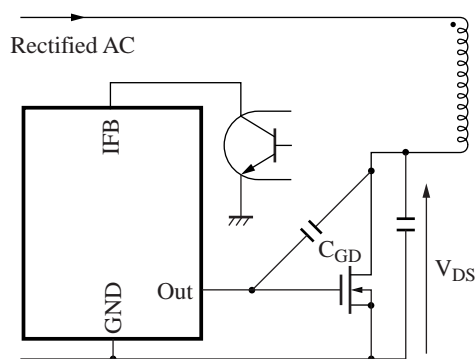

Figure 15
However, the amplitude of the chattering is larger for higher input voltages and for larger leakage inductance in the transformer used. Also, the influence of this phenomenon becomes more noticeable for the larger  $C_{GD}$  of the power MOSFET used, and the  $V_{EX}$  peak value also increases. If the parasitic device conduction voltage is exceeded, then, in this IC, the parts of the circuit around the feedback circuit (FB) (in particular, the FB discharge circuit) are influenced. This can cause momentary drops in the IFB pin voltage (the control voltage), and as a result increase the FB current ( $I_{IFB}$ ) and thus does not allow the drive pulse on-period  $t_{ON}$  to be increased. It may also prevent stabilization of the circuit. These are symptoms of the case described here. (See figures 15 and 16.)